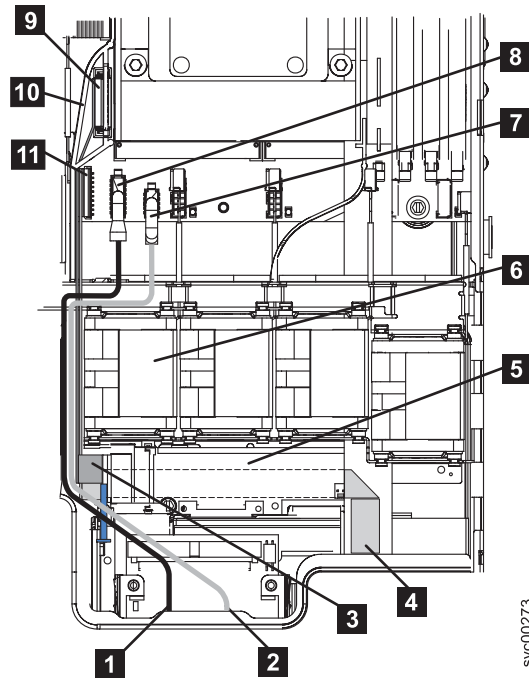

Figure 167. Unplugging the video, USB, and the CD/DVD cables
7. Unplug the video cable **8**, the USB cable **7** and the CD/DVD cable **9** from the system board. There is no need to completely remove these cables. Unplugging them makes it easier to maneuver the light path ribbon cable **4**. In Figure 167 on page 441, the front of the node is at the bottom of the illustration.